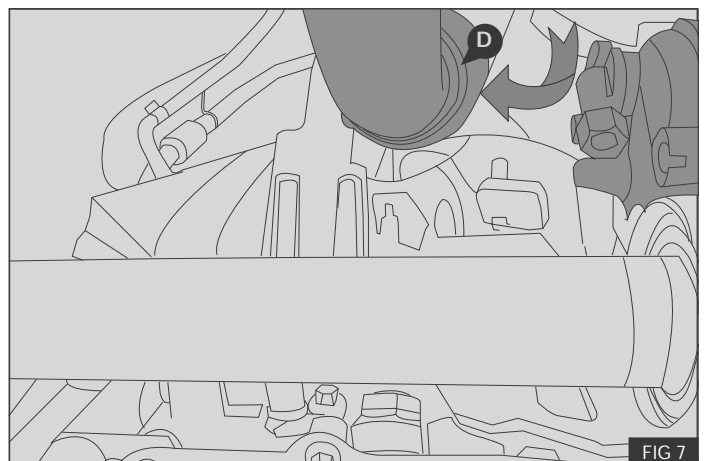

FIG 7
NB: Move and hold the exhaust pipe (D) in the direction shown to allow for the installation of the compressor - Fig 7.